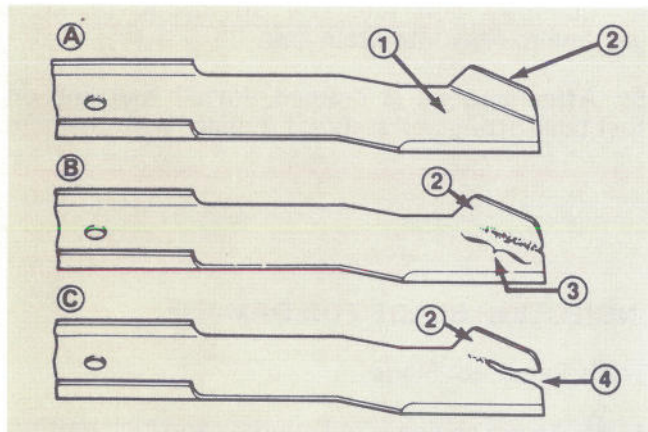

Figure 35
4. Examine cutting ends of blade carefully, especially where the flat and curved parts of the blade meet (Fig. 35, A). Since sand and abrasive material can wear away the metal that connects the flat and curved parts of the blade, check the blade before using the mower. If any wear is noticed (Fig. 35, B), replace the blade: refer to Sharpening or Replacing Cutter Blade, page 16.
If the blade is allowed to wear, a slot will form between the sail and flat part of the blade (Fig. 35, C). Eventually, a piece of the blade may break off and be thrown from under the housing, possibly resulting in serious injury to yourself or bystander.